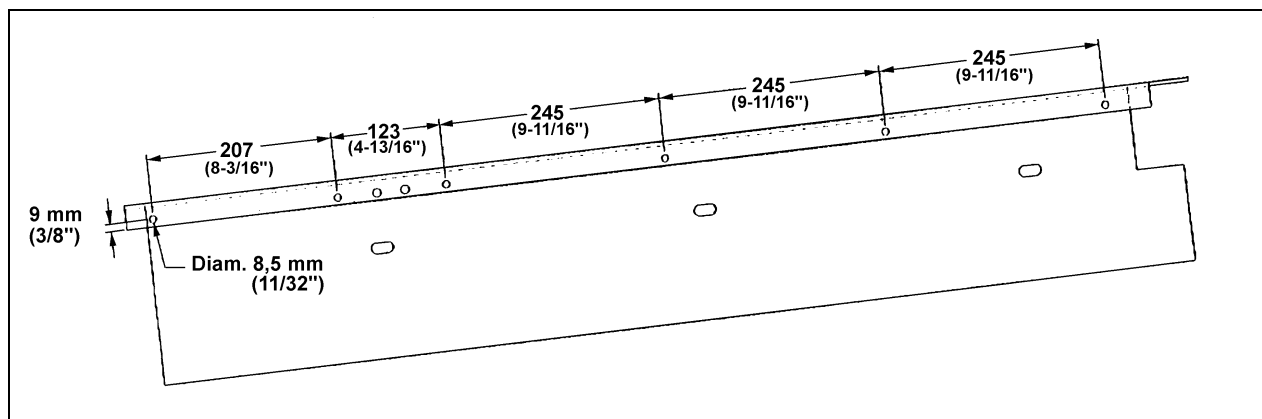

FIGURE 3 : H3 SERIES VEHICLES DRILLING DIAGRAM
3. Drill six 11/32 inch (8,5 mm) holes into the chassis using drilling diagram in figure 3.